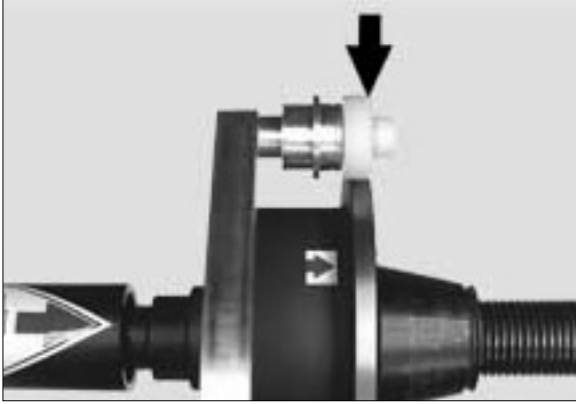

Figure 49B - Metal Offset Arm Gauge to Faceplate
**Note:** It is highly important to position the gauge correctly as shown in figure 49A (plastic arm) or figure 49B (metal arm).